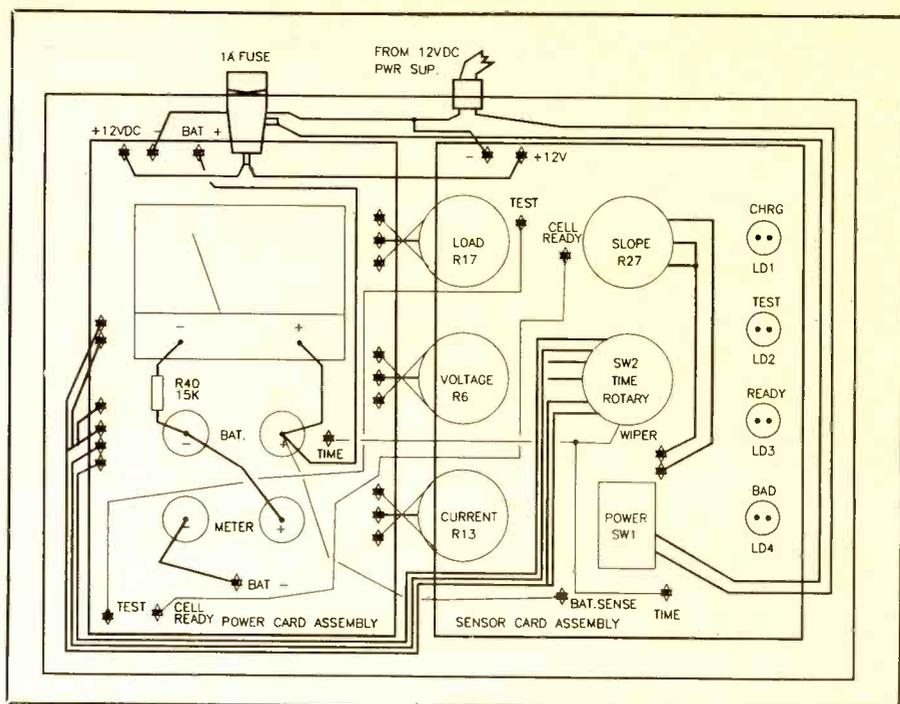
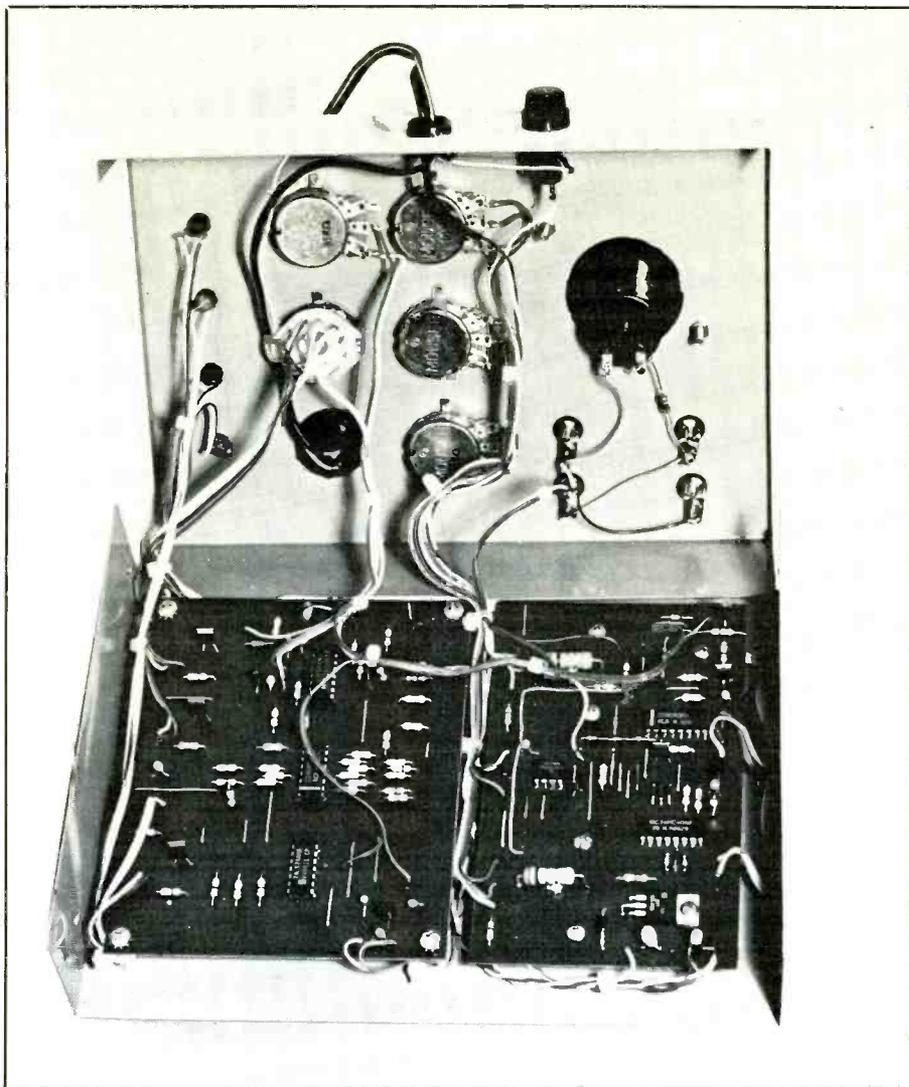

Fig. 5. Overall wiring details for interconnecting all components that make up the Super-Charger.
Fig. 6. Interior view of completed Super-Charger prototype.
• *Output Range Considerations:* Looking at Fig. 5 and Fig. 6, you can see that the both the choice of load resistor and the frequency determine the maximum peak-to-peak output voltage. If the load is less than 2,000 ohms (Fig. 5), peak-to-peak output drops rapidly. A 200-ohm load permits only about 10.5 volts peak-to-peak output before distortion occurs.
Now look at Fig. 6. Notice that the maximum output curve falls off very rapidly after 10 kHz. Note, too, that
ly  $\pm 5$  volts. Data presented in **Fig. 5** and **Fig. 6** are also related to supply voltage. If you use the device less than  $\pm 12$  volts, you should develop your own data for output voltage range and frequency response.
Now, referring to Fig. 5, finish wiring the circuitry. Use appropriate lengths of hookup wire for each in-
When you're done wiring the project, neatly dress all wiring. Use small plastic cable ties or waxed lacing cord to collect the wiring into neat bundles, as shown in the completed project pictured in Fig. 6. Then tighten the mounting hardware for circuit-board assemblies.